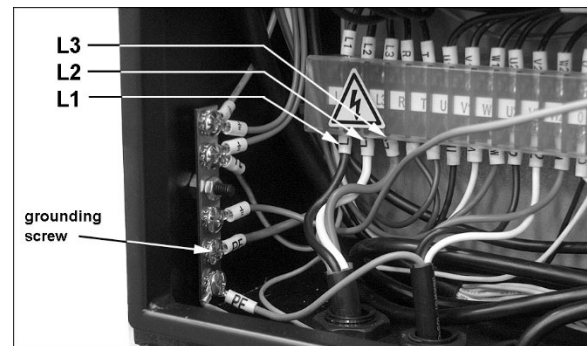

Figure 6-1: shows three-phase connection
1. Bring the lead wires through hole in machine's electrical box and connect as follows (refer to Figure 6-1):